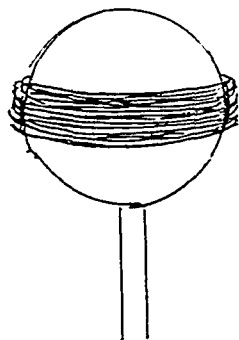

Figure 1
2) Holding your thumb on the yarn, wind the yarn horizontally over the moleskin or tubing, counting the revolutions as you go, until you reach a desired density (See Figure 1). The more dense the layer of yarn, the larger the mallet head will be and a softer, less articulate tone quality will result. The tone quality of the mallet also depends on the material the ball itself is constructed of. A wooden or plastic ball will produce a much brighter, more articulate mallet than a rubber ball. Remember the number of revolutions, as you will want to use the same number on each pair or set of mallets.